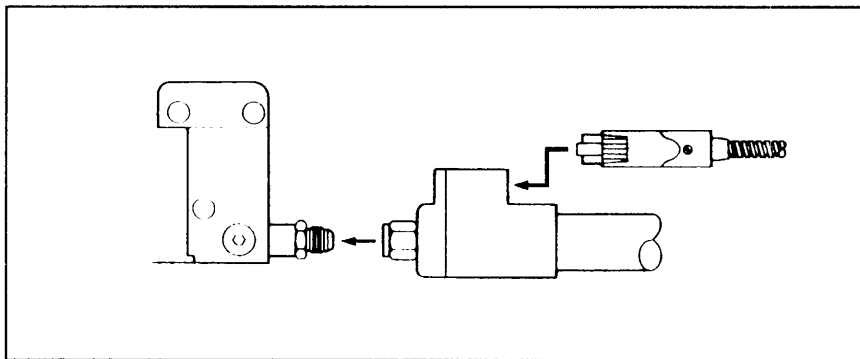

Figure 3.5
2. Mechanically connect the hose to the gun (see Figure 3.5).
3. Electrically connect the hose to the gun by connecting the plug on the gun to the receptacle on the hose (see Figure 3.5).